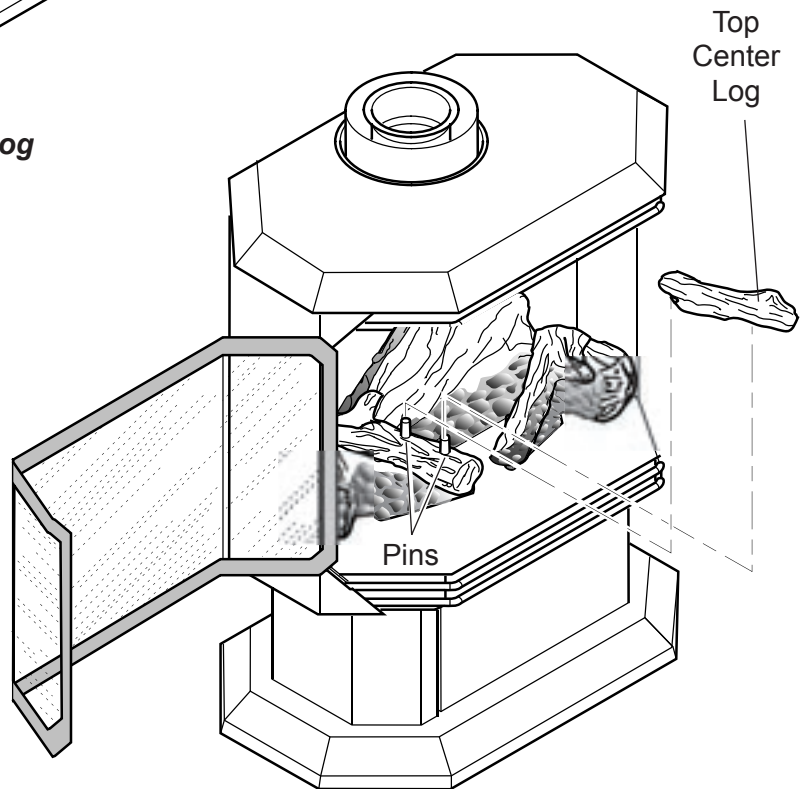

Figure 37 - Installing Top Center Log
8. Place top center log on top left log pins sand angle to burner. *See Figure 37.*